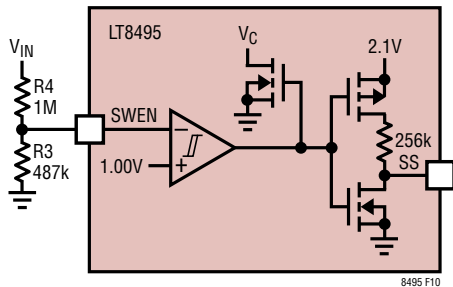

Figure 10.  $V_{IN}$  Undervoltage Lockout
**Input UVLO:** Connecting a resistor divider from  $V_{IN}$  to SWEN (see Figure 10) implements an input undervoltage lockout circuit. SWEN has an accurate rising threshold of 1.0V with 30mV of hysteresis (typical—see Electrical Specifications). By connecting a resistor divider from  $V_{IN}$  to SWEN, the LT8495 will be programmed to disable the switching regulator when  $V_{IN}$  drops below a desired threshold. Typically, this threshold is used in situations where the input supply is current limited, or has a relatively high source resistance. A switching regulator draws constant power from the source, so source current increases as source voltage drops. This looks like a negative resistance load to the source and can cause the source to current limit or latch low under low source voltage conditions. The input UVLO prevents the regulator from operating at source voltages where the problems might occur.
As shown in Figure 10, by connecting a resistor divider from  $V_{IN}$  to SWEN, the falling undervoltage lockout threshold is set to:
From the previous equation, the resistor divider shown in Figure 10 gives the  $V_{IN}$  pin a falling undervoltage lockout threshold of 2.96V. When  $V_{IN}$  is below this threshold, the switching regulation is disabled and the SS pin starts to discharge. After choosing the value of R3, for example, R4 can be calculated using: